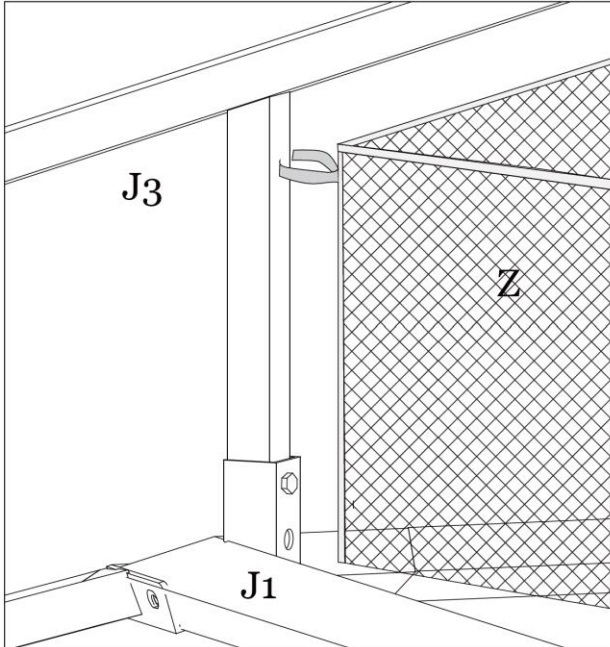

Figure 20-1
Step 20A: Attach the Roof Vent Mosquito Netting (Z) to the Velcro on Roof Vent Support Frame (J3) and secure with Roof Vent Mosquito Connector (V2) using Bolts/Washers (AA). **Tighten all Bolts.** See Figure 20-1 and 20-2.